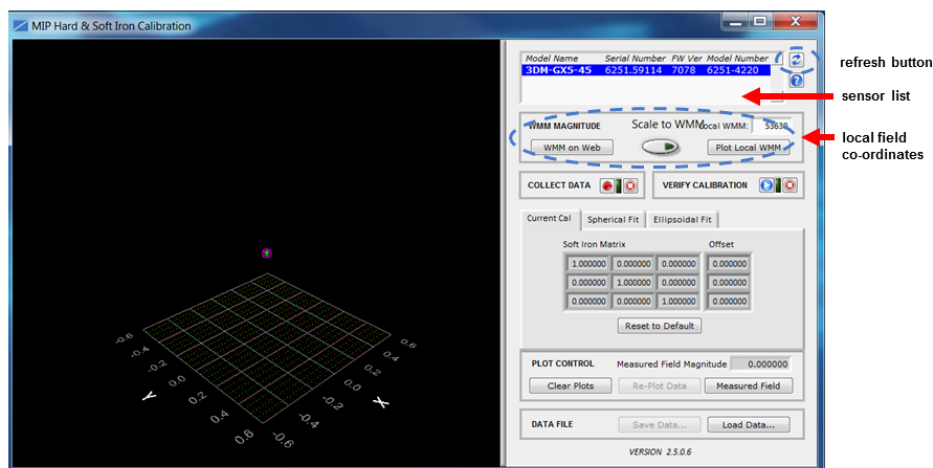

Figure 26 -Sensor Menu
- The sensor should automatically appear in the sensor list. If not, use the Refresh button to query it and then select the sensor (Figure 26 - Sensor Menu ).